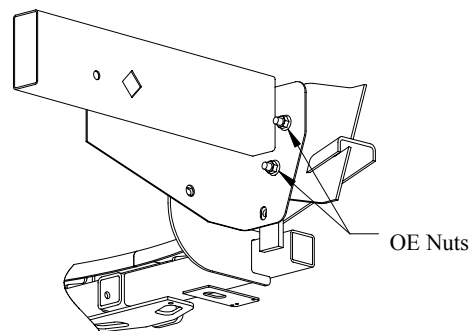

FIGURE 2
2. If the small brackets on the hitch do not go between the ends of the saddle bracket on the vehicle's bumper, the bumper may be loosened and recentered. **After adjustment, tighten the M14 OE flange nuts to 148 lb-ft (201 N-m).** See Figure 2.